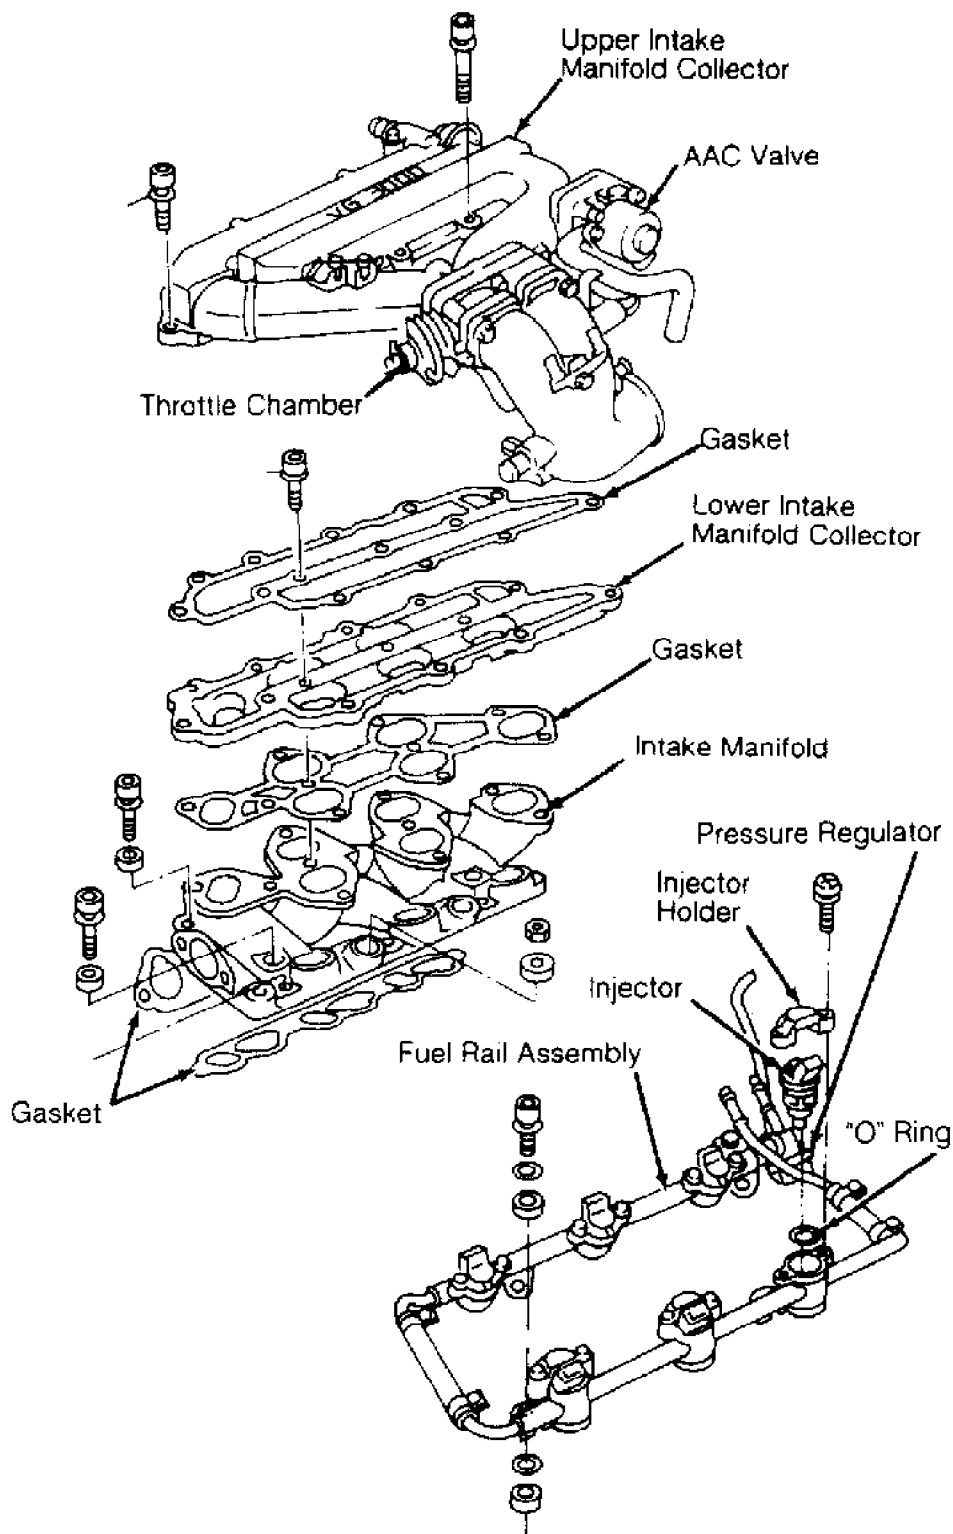

Fig. 1: Removing & Installing Fuel Rail & Injector (Maxima)
- 2) Disconnect wiring harness connectors from Auxiliary Air Control (AAC) valve, throttle sensor and idle switch. Release cooling system pressure. Drain cooling system. Remove coolant hose to air-cut valve. Remove upper intake manifold collector. See Fig. 1.